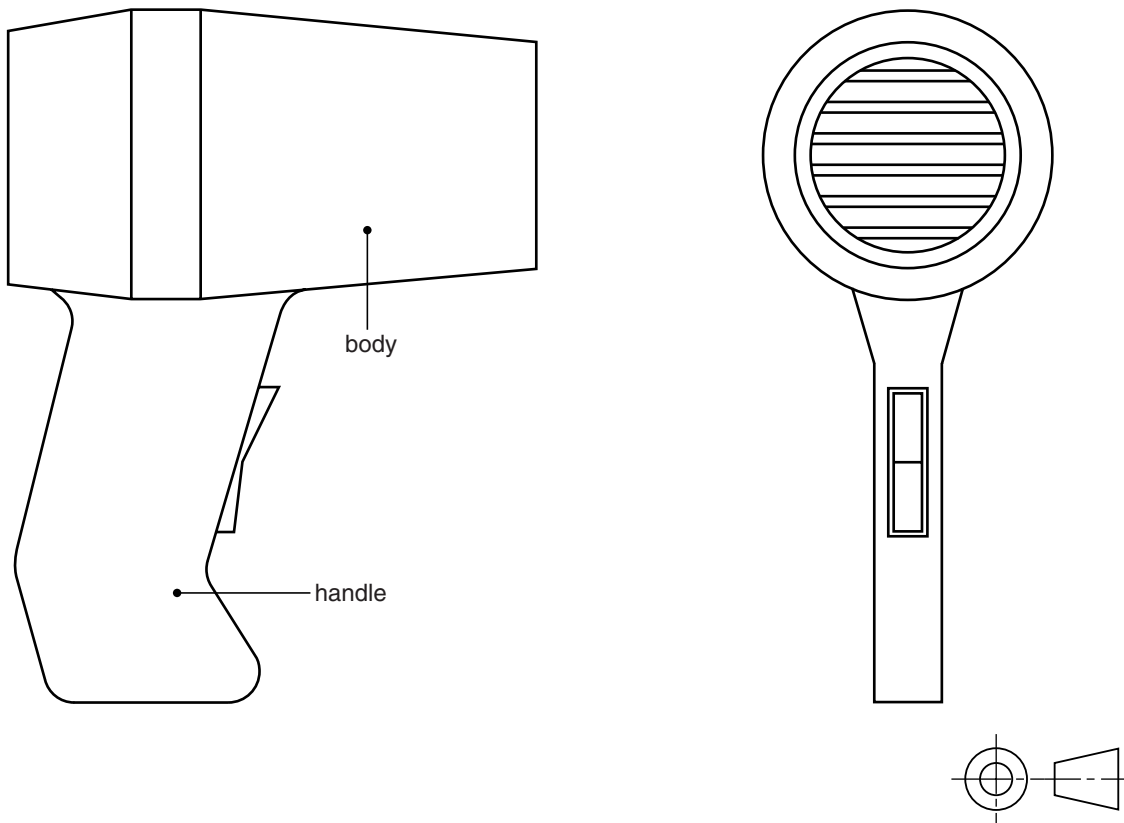

Fig. 4
- 8 Fig. 4 shows details of a hair dryer. It is drawn half full size.